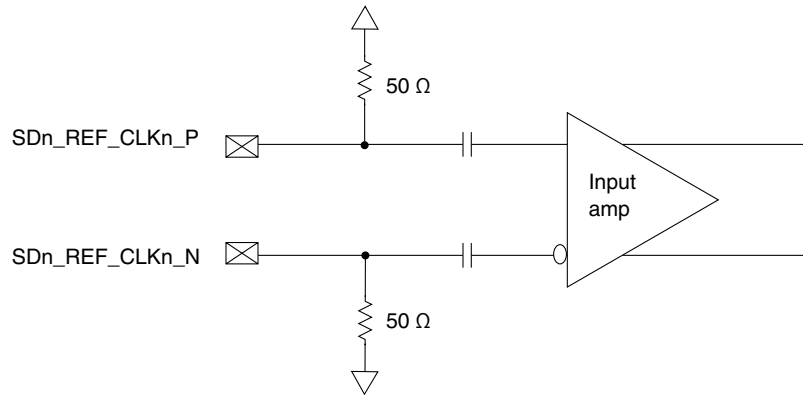

Figure 68. Receiver of SerDes reference clocks
- They are internally AC-coupled differential inputs as shown in Figure 68. Each differential clock input (`SDn_REF_CLKn_P` or `SDn_REF_CLKn_N`) has on-chip $50\text{-}\Omega$ termination to `SD_GND` followed by on-chip AC-coupling.